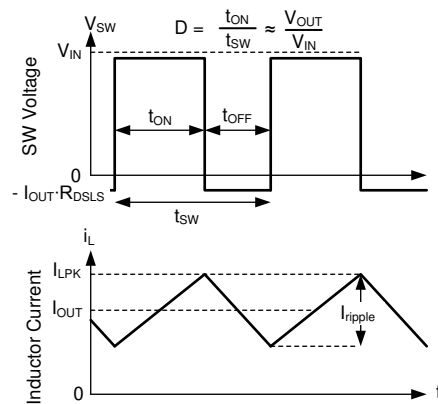

Figure 7-17. SW Voltage and Inductor Current Waveforms in Continuous Conduction Mode (CCM)
The following operating description of the LMR36503E-Q1 refers to the Section 7.2 and to the waveforms in Figure 7-17. In CCM, the LMR36503E-Q1 supplies a regulated output voltage by turning on the internal high-side (HS) and low-side (LS) switches with varying duty cycle (D). During the HS switch on-time, the SW pin voltage, V_{SW} , swings up to approximately V_{IN} , and the inductor current, i_L , increases with a linear slope. The HS switch is turned off by the control logic. During the HS switch off-time, t_{OFF} , the LS switch is turned on. Inductor current discharges through the LS switch, which forces the V_{SW} to swing below ground by the voltage drop across the LS switch. The converter loop adjusts the duty cycle to maintain a constant output voltage. D is defined by the on-time of the HS switch over the switching period: